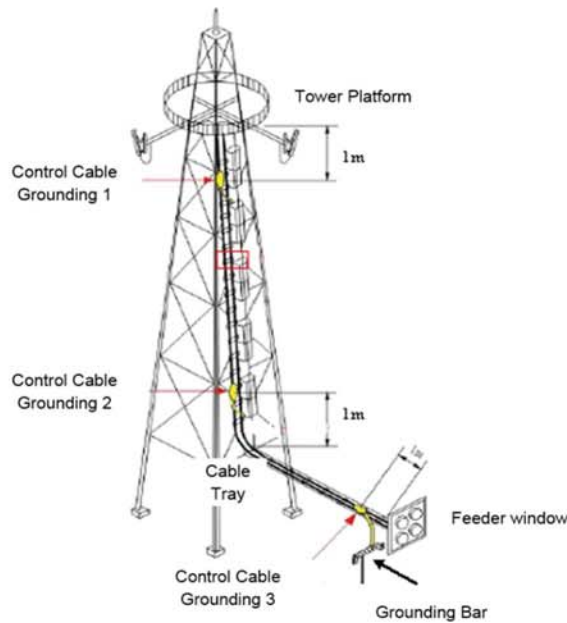

Figure 17
b) Control cables metal sheath should be clamp to grounding kit within 1m of antenna, 1m within the cable tray at the bottom of the tower, and 1m before entering base station shelter. Make sure grounding cable is installed property, feeder window of the shelter room should be close to the ground and properly connect to the grounding bar that leads to the ground. (See Figure 17)